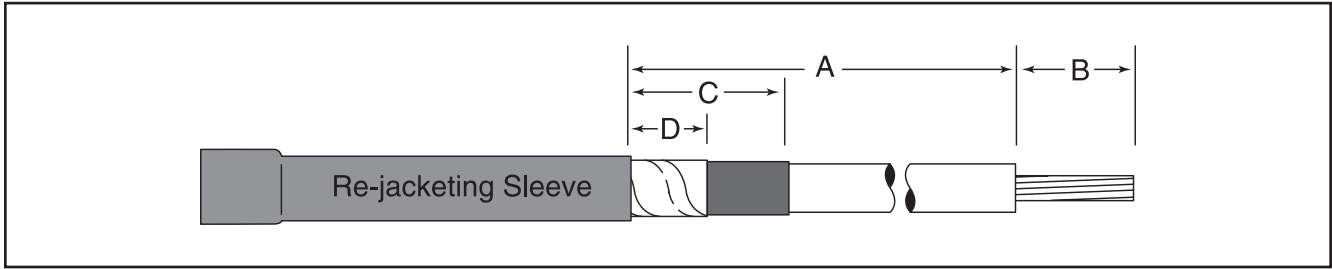

Figure 9
5.1 Prepare cable phase legs according to dimensions shown (Figure 9).